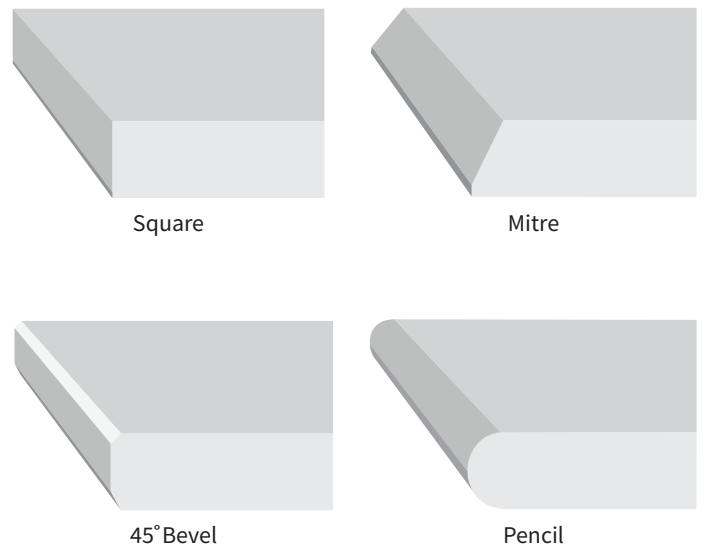

Figure 14: Different Edge Finishes
- A number of different exposed edge treatments can be achieved (Figure 14)